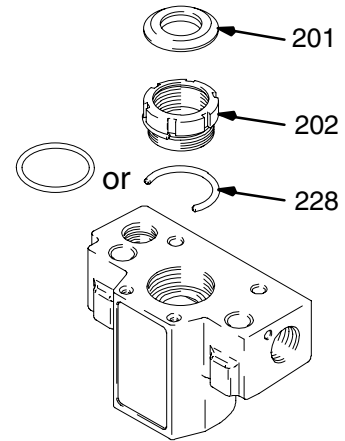

Fig. 13
Fig. 13. Install seal (201) into packing nut (202). Install throat adjustment spacer (228) onto packing nut. Loosely install packing nut into manifold. O-ring replaces metal clip ring on older models.